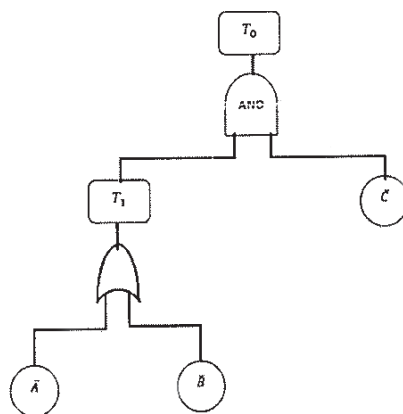

Fig 3.
c) The logic gate diagram for FMEA study has been shown in fig 3. The basic failure modes of A, B and C have failure rates 0.002, 0.003 and 0.004 per hour respectively. Find the failure rate of T_0 . Assume a mission time of 100 hrs. [8]